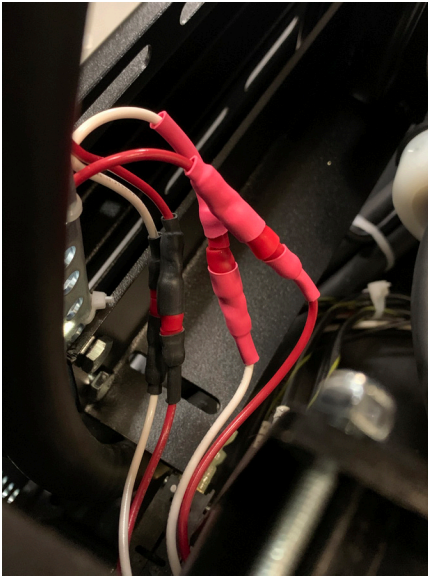

Figure 2.9 – Fan panel connections
4. Locate and disconnect the four (4) wires connected to the lower rear fan panel. See **Figure 2.9**.